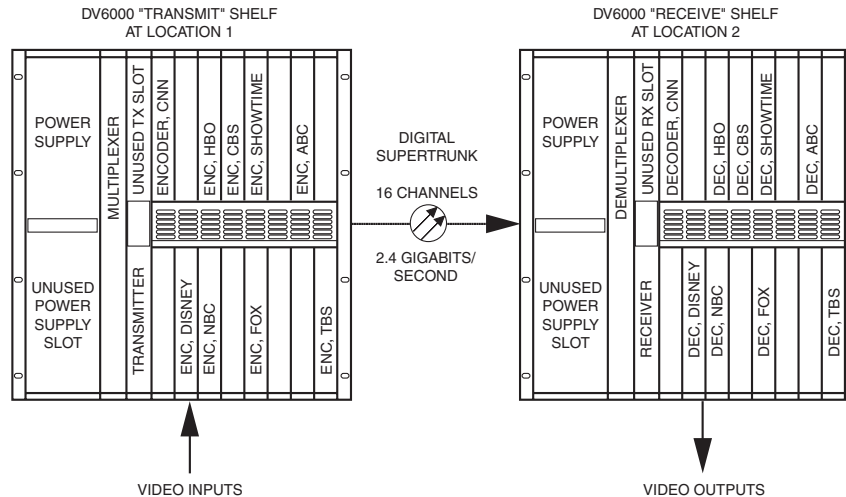

Figure 6. Flow of Signals from Encoder Slots at Transmit Site to Corresponding Decoder Slots at Receive Site
- In DV6000 systems, channels can be provisioned with software to “Add” or “Drop” any Encoder or Decoder channel, respectively, to or from any of the **time slots** in the fiber optic data stream. However, in the default configuration, modules provide a 1 to 1 relationship between the encoder card slot location, the transport channel in the fiber optic data stream, and the decoder slot location. In a simple end-to-end system, the signal from the encoder in slot 1 in the “transmit” shelf will be demultiplexed to the decoder at slot 1 at the “receive” shelf, and the signal from the encoder in slot 2 will be demultiplexed to the decoder in slot 2, etc., as shown in Figure 6.